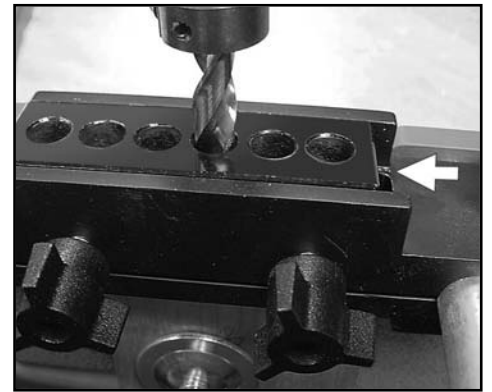

Fig. 12
13. Shift drill block back to the left and tighten guide block knobs. (Fig. 12)